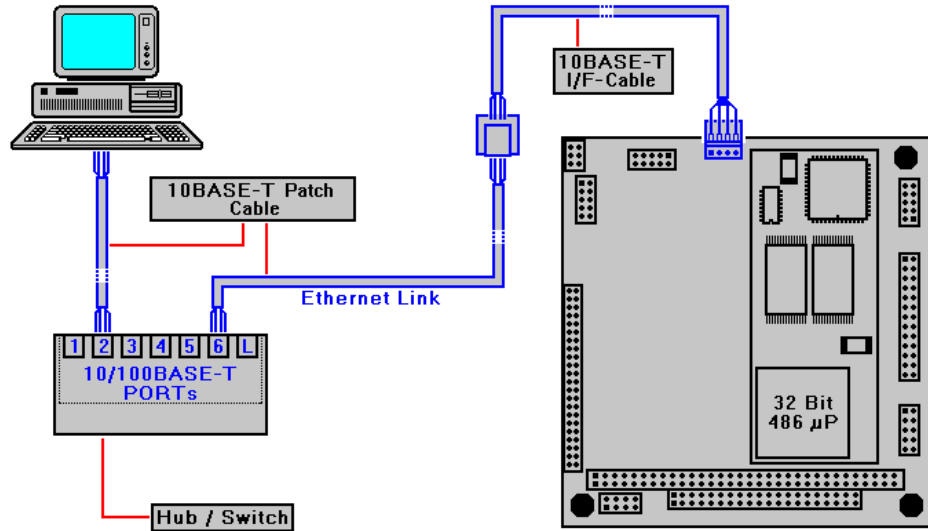

Figure 8: Installation of the 10BASE-T patch cable
Now connect the RJ45 connector of the 10BASE-T-I/F cable with the hub or switch via a standard 10BASE-T patch cable. Figure 8 shows such a connection. The patch cables in this figure are named as **10BASE-T Patch Cable**.
- Figure 8: Installation of the 10BASE-T patch cable